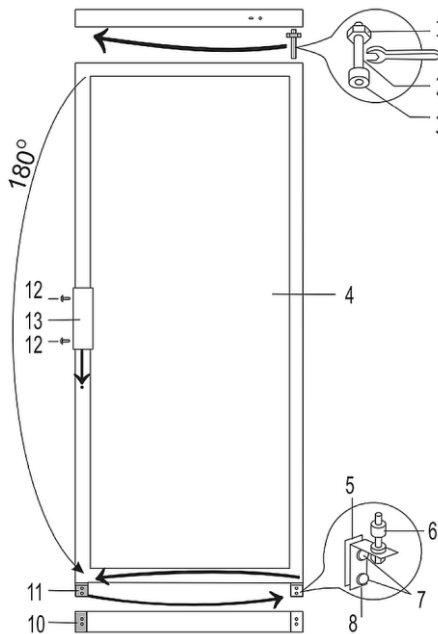

Fig. 9
1. Undo two bolts (7, Fig. 9) and remove the bottom support from the hinge (8), together with the set of washers (6) on the axis, as well as intermediate element (5).
2. Undo bolts (7) and remove the support from the hinge (11).
3. Remove the door (4).
4. Undo the bearing journal (2), together with a nut (1) and washers (3), out of the top support of the hinge.
6. First, rotate the door (4) by 180°, and then slide the top bearing journal (2) into the door (4) and hang the door (4).
7. Undo fastening bolts (12) from the door and remove the door handle (13).
8. Install the door handle (13) at the opposite side.